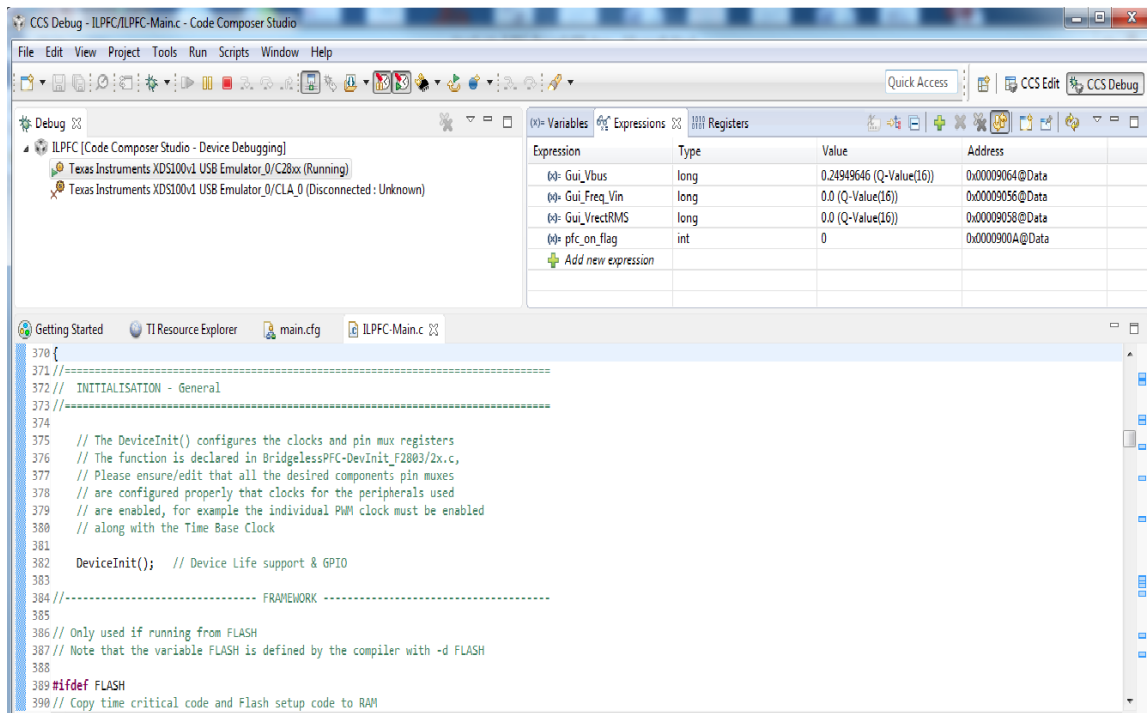

Figure 12. The CCS Watch View for Build 1
14. Run the program (see Figure 12 for an example of the watch view).